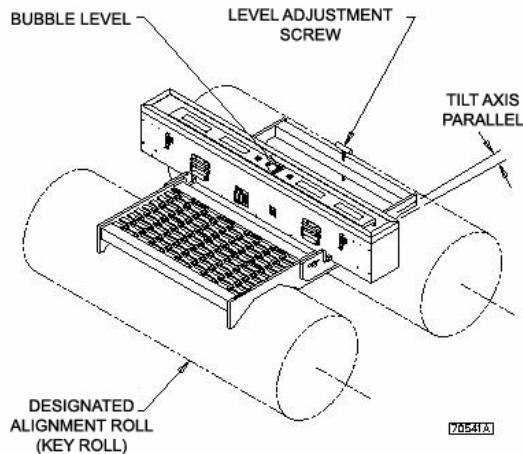

Figure 6.3 Calibrator Placement
- 1) Place the calibrator carrier on the roll table with the "V" notch registering on the key roll (Fig 6.3). The tilt adjustment screw should rest on the adjacent roller.